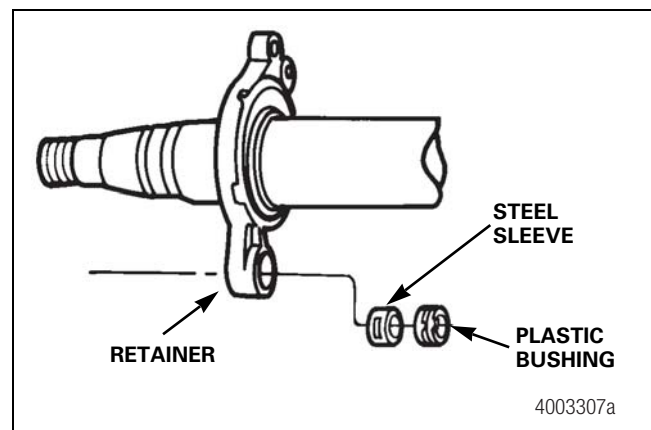

Figure 12.6
- A plastic sleeve bushing can be installed onto all three spider models. Note that a steel sleeve is pressed into the spider before this bushing is installed. Figure 12.6.